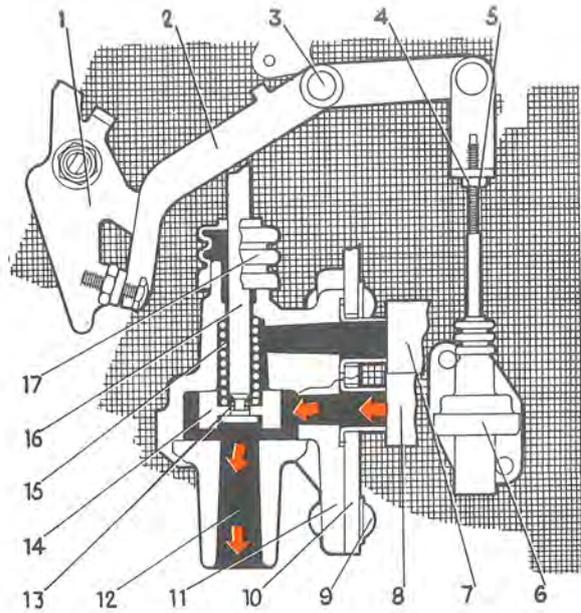

Fig. 2-65. Hot start valve, function, idling
outlet (12, Fig. 2-65), and the fumes are led directly out into the atmosphere when the engine is switched off or idling.
When the throttle is at idling position, the lever (1), Fig. 2-65, presses against the valve control (2). The piston (14) is thereby lifted to its upper position by the control rod (16). The connection between the floatchamber and air cleaner is closed and fuel fumes are led directly out into the atmosphere through the outlet (12). (On vehicles fitted with an anti-fume device, the fumes are led from the outlet (12) to the venting filter.) When the accelerator pedal is depressed (See Fig. 2-66), the lever (1) releases the valve control (2) and the piston (14) is pressed by the spring (15) against its lower position. The outlet (12) is shut off, the fuel fumes are led into the air cleaner, and when the engine starts running, further through the carburettor and into the engine combustion chambers.